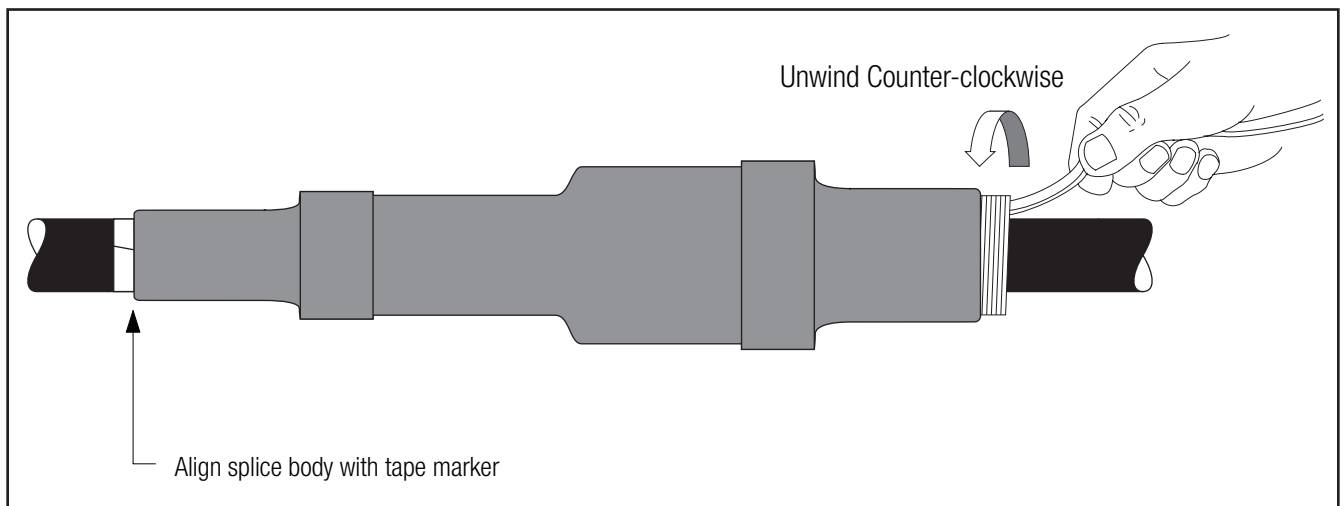

Figure 16
4.5 Position the splice body over connector area, aligning end of the splice body (not the core) at the center of the tape marker. Slowly start to remove the splice core by pulling and unwinding the loose core end counterclockwise, allowing only  $\frac{1}{4}$ " (6 mm) of the splice to shrink onto the tape marker. Carefully slide the splice body off the tape marker by pulling and twisting until the entire tape marker is exposed. Continue removing the core to complete the splice body installation (Figure 16).